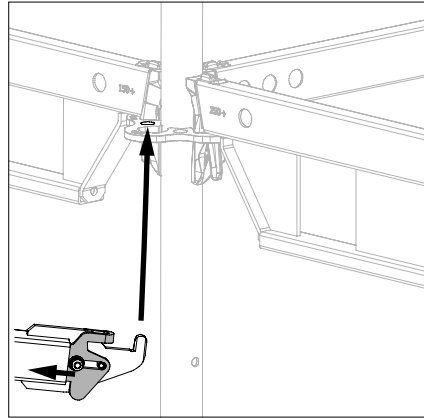

Fig. A4.01c
- 2. Push back slider **(20.2)** and insert horizontal brace with hook into the brace adapter of the diagonally opposite rosette from below. (Fig. A4.01c)